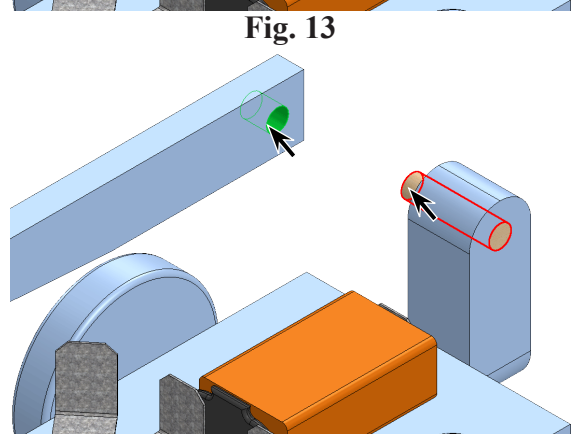

Fig. 14
Step 6. Click **cylindrical inside face of hole in Cross Support** and **cylindrical face of Axle**, Fig. 14.